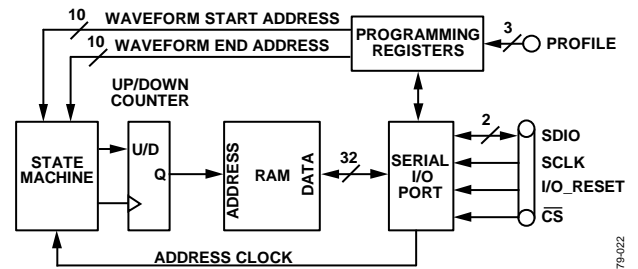

Figure 41. RAM Data Load/Retrieve Operation
3. Write to (or read from) the RAM (Address $0x16$) the appropriate number of RAM words as specified by the selected RAM profile control register (see the Serial Programming section for details). Figure 41 is a block diagram showing the functional components used for RAM data load/retrieve operation.